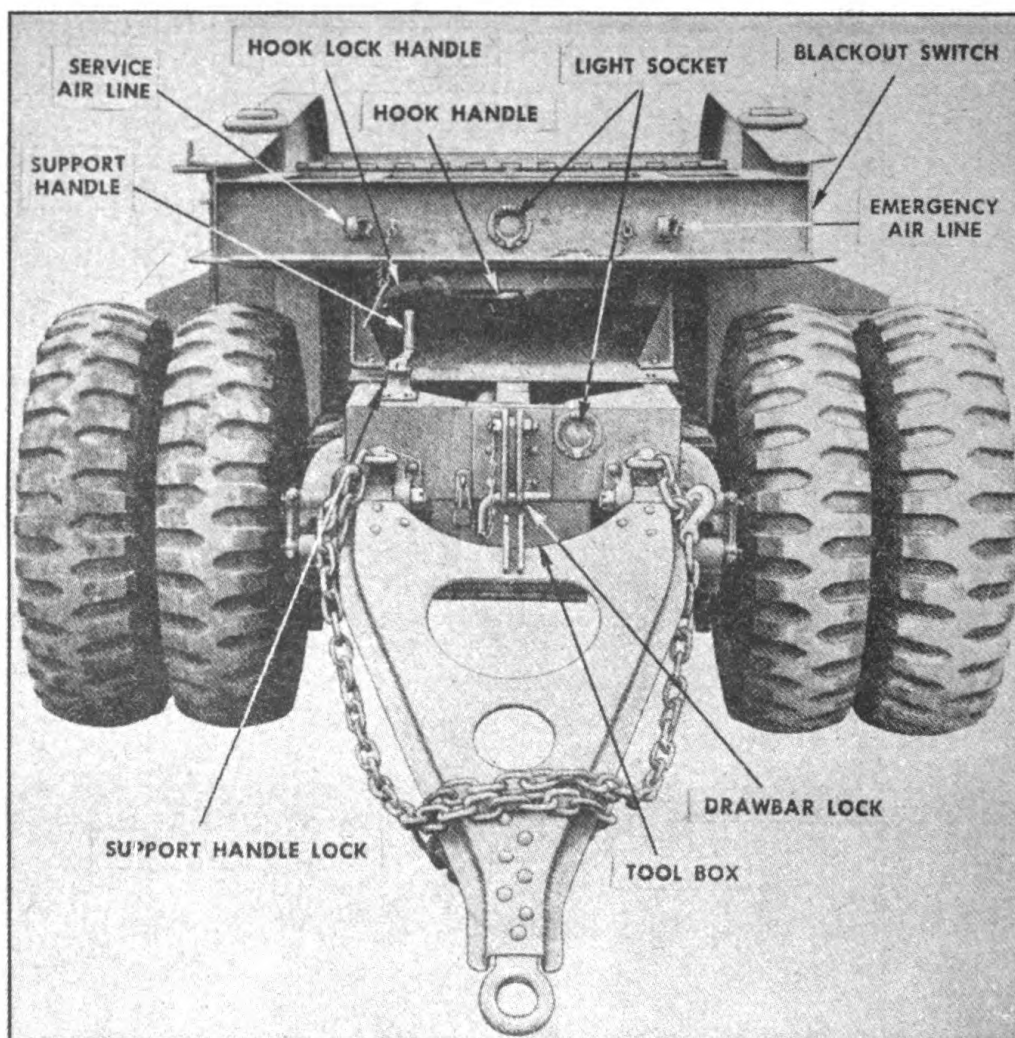

FIGURE 3. CONTROLS—SIDE VIEW.
b. Lights (Figure 3).—This vehicle is equipped with three light
c. *Blackout switch* (Figures 3 and 4).—The blackout switch is located on the left or road side of the main frame and on the rear cross-member of converter gear. There is no "off" position on the switch. It is either at a blackout position or at a standard light position. The switch is operated by means of a coin or screwdriver. The flow of current is controlled at the towing vehicle.
f. Support crank (converter gear) (Figure 3).—Support crank is located at top of gear frame on the right side. Converter gear supports are used when converter gear is being coupled to trailer or when it is being uncoupled.
g. Drawbar lock (Figure 3).—Drawbar is used to hold drawbar in place when converter gear is being towed alone.
h. Coupler release handle (Figure 3).—By pulling out on coupler release handle, coupler hook becomes unlocked, permitting converter gear to be disconnected from semi-trailer.